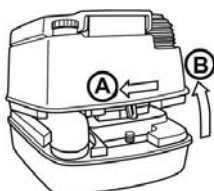

Figure J12: Removing Fresh Water Tank
3. Remove fresh water tank from waste holding tank (Figure J12).